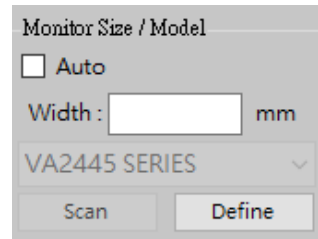

Fig 3-27-2 Manually input screen size
- Manually enter the screen size: Some screens have incorrect internal settings when shipped from the factory, so you need to enter the size yourself. Fig 3-27-2